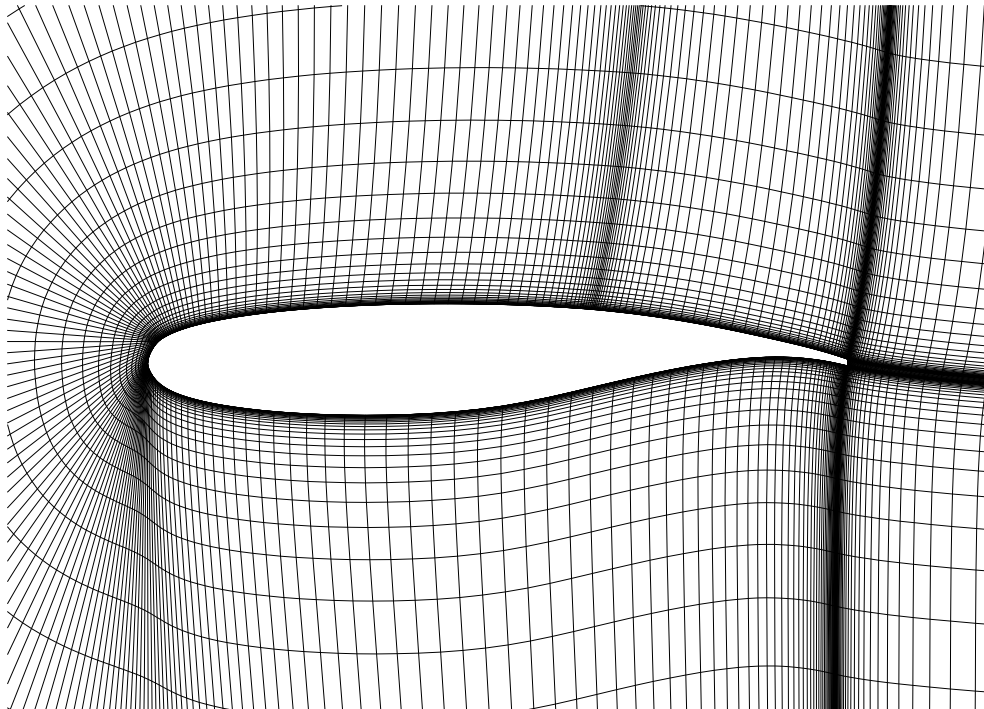

Figure 6.11: Algebraic grid for Test Case 4
5. Algebraic H-grid plot (figure 6.11)